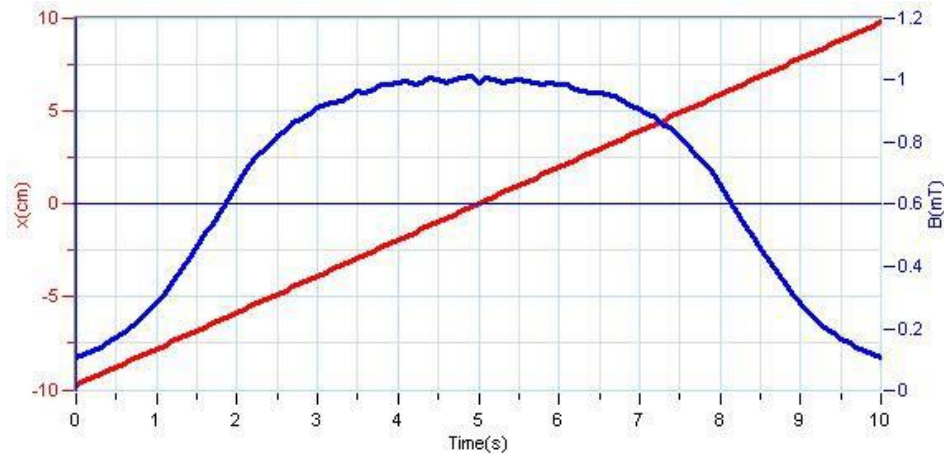

Figure 2
3. The data logger will graph the data from the two sensors. The graph will show both the magnetic field strength and the position of the magnetic field sensor as a function of time, each in a separate color (Figure 2, already zoomed). When the magnetic sensor is moved along the length of the solenoid in
smooth even steps, the graph of the position as a function of time will appear as a straight line (Figure 2). If you suspect that the motion was not smooth enough or if you didn't succeed in reaching the far end of the solenoid, repeat the experiment.